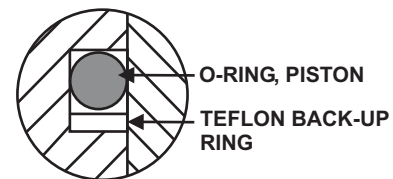

Figure 6-2. Piston O-Ring
**Make certain the Teflon® back-up ring is below this O-ring as shown in Figure 6-2.**